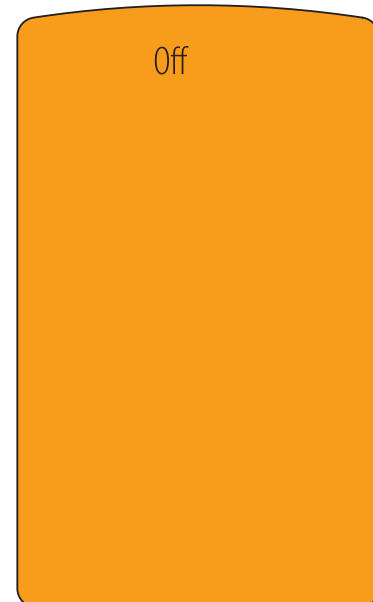

Figure 10. RC300 Standby Mode
- The AVFL60 series appliance comes standard with a two (2) button LED control panel located under the access panel. See Figure 10.